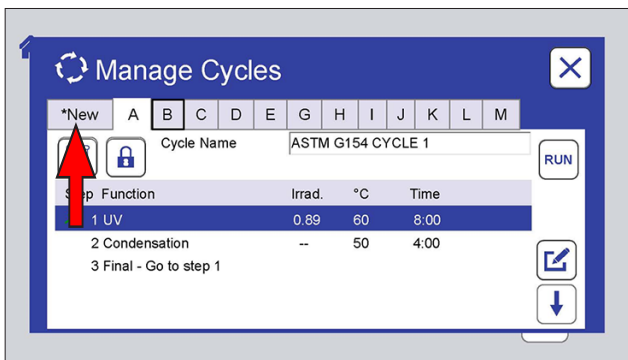
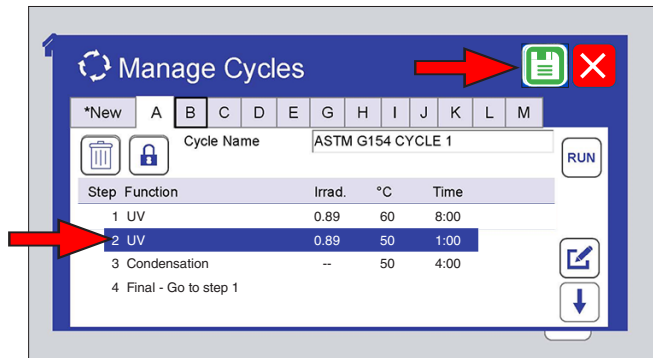

Figure 9.6.7a: To create a new cycle, touch the *New tab.
Figure 9.6.7e: Follow Figure 9.6.4a through Figure 9.6.4h to add steps and save the new cycle.
- o Create a new cycle (Figure 9.6.7a through Figure 9.6.7e).